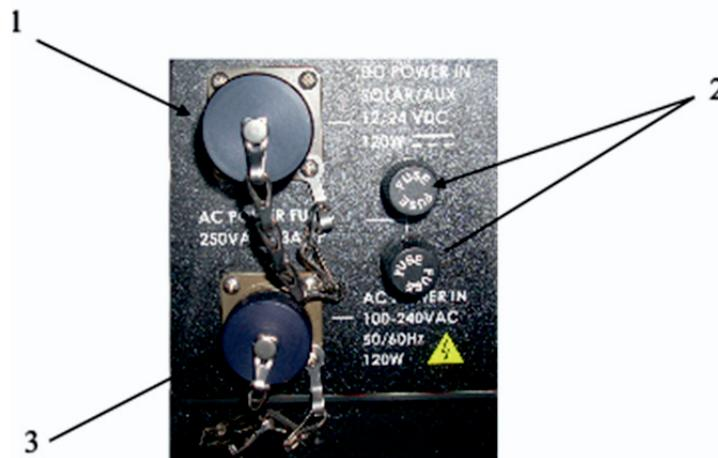
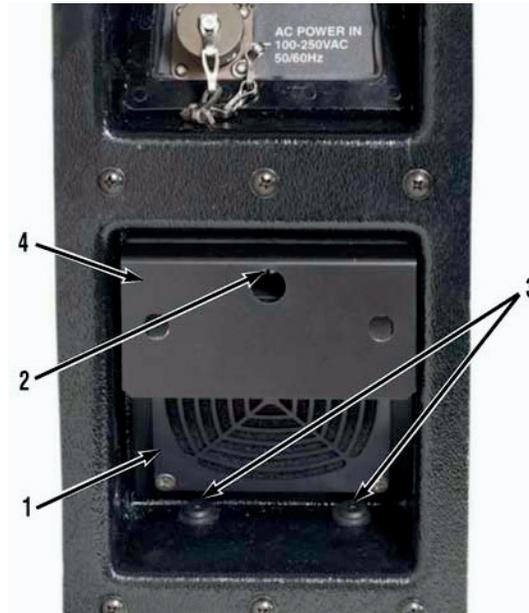
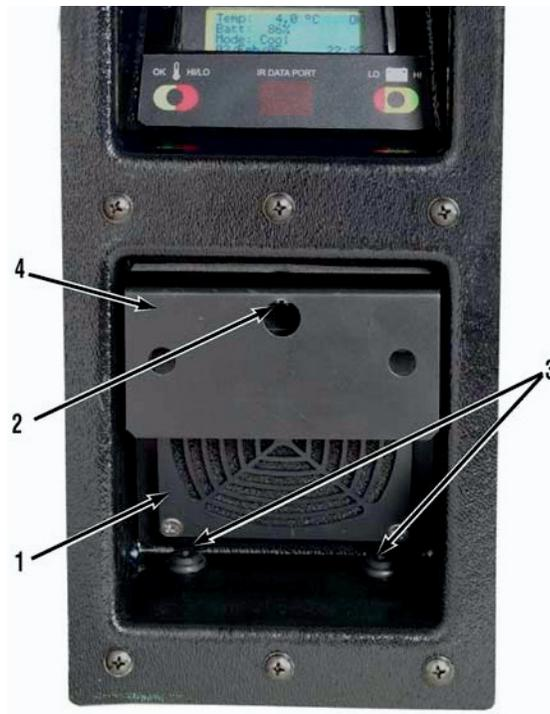

Figure 60. Change Fuse
Figure 61. Power Panel Air Filter
Figure 62. Display and Control Air Filter
The AC power fuses (item 2, Figure 60) are located adjacent to the power input connectors (item 2).
One filter is located below the power panel (item 1, Figure 60) and the other filter is located below the control panel display (item 1, Figure 61).
1. Insert a 1/4-inch flat-bladed screwdriver through the hole in the handle (item 4) of the display and control panel filter (item 1).
2. Turn the slotted quarter-turn stud (item 2) one quarter-turn counterclockwise to unlock the filter (item 1).
3. Grasp underneath the filter handle (item 4) and pull outward.
4. Repeat steps 1. through 3. for the filter on the power panel (Figure 61).
1. Place the bottom edge of the filter (item 1, Figure 61) into the power panel behind the two inner bezel rivets (item 3).
2. Ensure that the slot in the quarter-turn stud (item 2) is vertical, and then push the filter (item 1) firmly inward.
3. Insert a 1/4-in flat-bladed screwdriver and turn quarter-turn stud (item 2) clockwise until it is fully engaged.
4. Pull on the filter handle (item 4) to make sure the filter (item 1) is locked in place.
5. Repeat steps 1. through 4. for the display and control panel air filter (Figure 62).